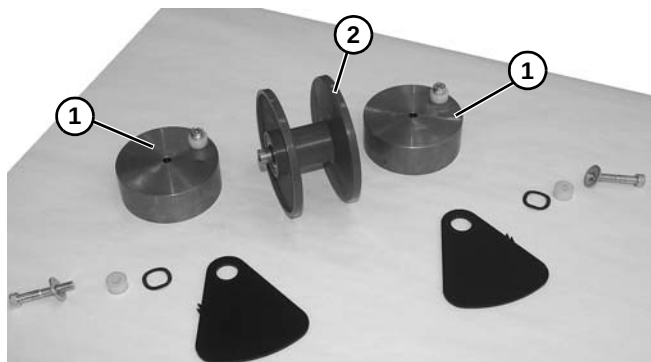

Figure 99
9. Remove two weights (**Figure 99, item 1**) from each side of pulley (**Figure 99, item 2**).